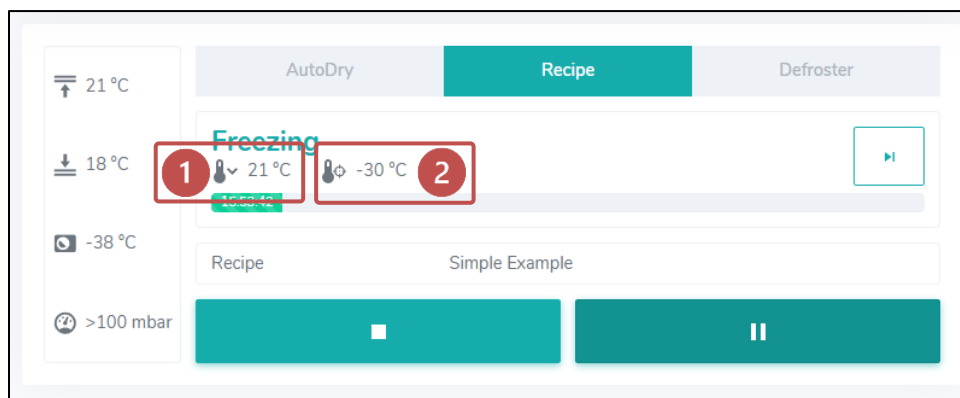

Figure 34
The Recipe Progress screen displays the current stage and real-time values of the current operating recipe. During the Freezing stage, these values include recipe runtime, as well as current (1) and target (2) shelf temperatures (Figure 34).